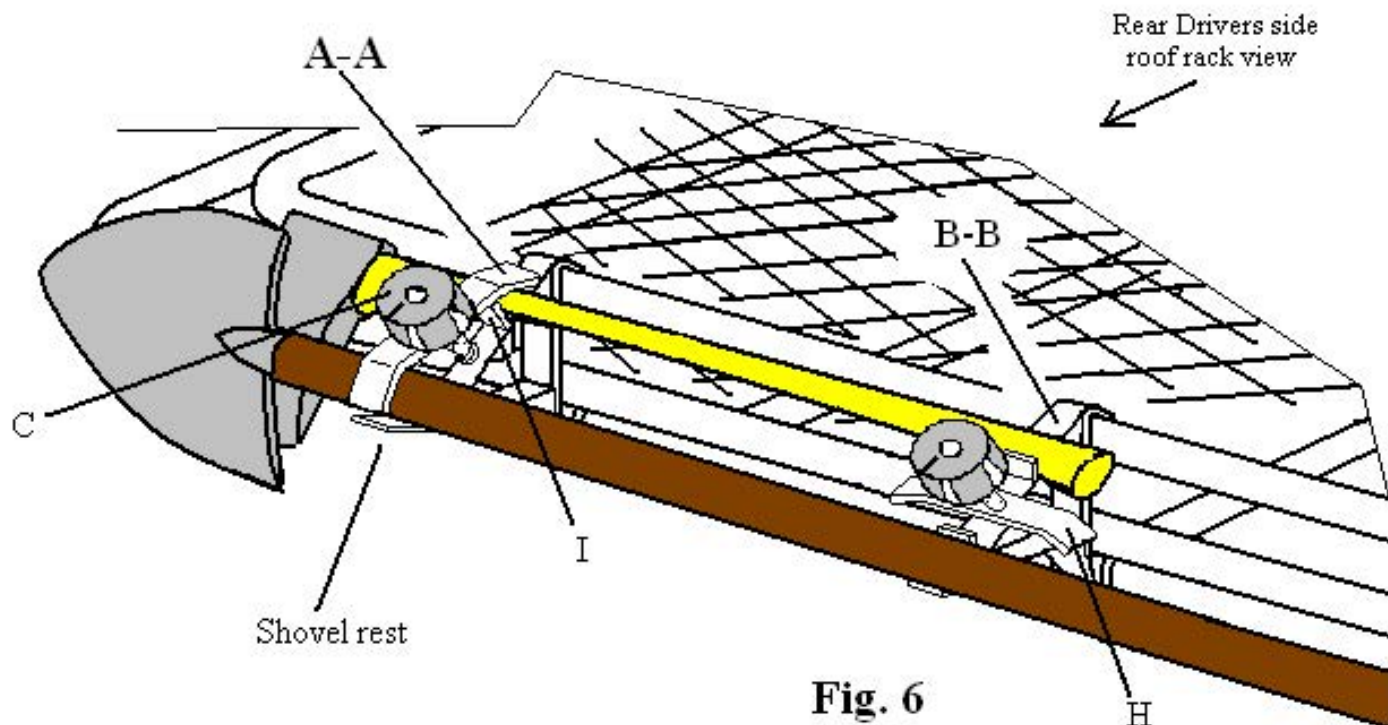

Fig. 6
- 2- Loosen both locking knobs "C" to the top end of the threaded studs and swing each pinch clamp "H" sideways as shown in Fig. 6 page 6 bracket "B-B".
- A) Loosen both locking knobs "C" and swing pinch clamps "H" sideways as shown in Fig 6 page 6.
- B) Place the Axe onto the Axe resting plates "I" with the Axe head towards the end of the roof rack or bracket "A-A" as shown in Fig 6 page 6 and hold with one hand at this time.
- C) Place the Shovel onto the lower shovel rests as shown in Fig 6 page 6 with the spade end of the shovel towards bracket "A-A" or the end of the roof rack covering the Axe head. With one hand holding both tools in place turn one of the pinch clamps "H" over the Axe and Shovel handles and clamp down using the locking knob "C". When one side is held in place continue to the other pinch clamp turn pinch clamp "H" vertical so that the clamp also covers the tool handles and clamp down using the locking knobs as shown in Fig 6 page 6.